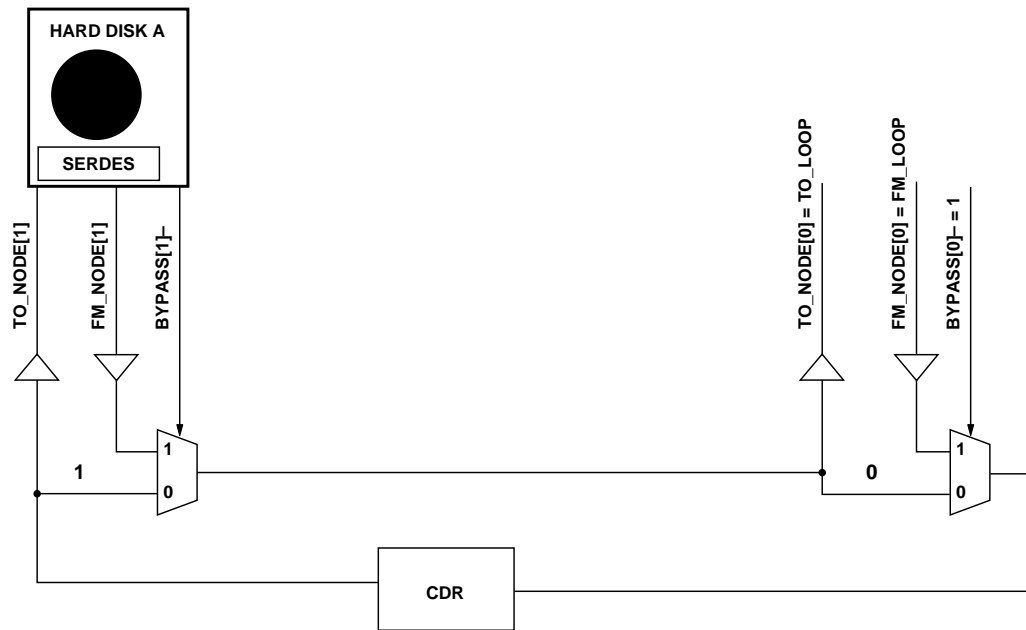
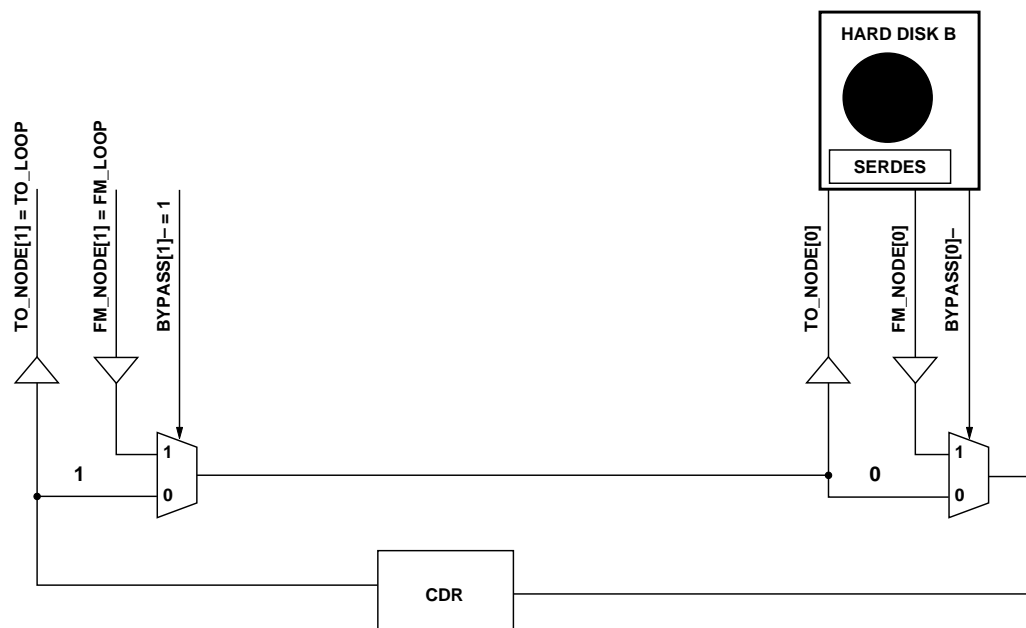

Figure 4: Connection Diagram. Case of CDR Before Entering the Hard Disk.
Figure 5: Connection Diagram. Case of CDR After Exiting the Hard Disk.
A Port Bypass Circuit is a 2:1 Multiplexer array with two modes of operation: DISK IN LOOP and DISK BYPASSED. In DISK IN LOOP mode, the loop goes into and out of the disk drive. Data go from the HDMP-0421's TO_NODE[n] \pm differential output pins to the Disk Drive Transceiver IC (for example, an HDMP-1536A) Rx \pm differential input pins. Data from the Disk Drive Transceiver IC Tx \pm differential output pins go to the HDMP-0421's FM_NODE[n] \pm differential input pins. Figures 4 and 5 show connection diagrams for disk drive array applications. In DISK BYPASSED mode, the disk drive is either absent or non-functional and the loop bypasses the hard disk. DISK IN LOOP mode is
(Figure 4). To achieve a CDR function after slot A, the BYPASS[1]- pin must be HIGH and hard disk slot A must be connected to PBC cell 0 (Figure 5). Table 2 shows both possible connections. In both cases, a Signal Detect (SD) pin
Table 2. Pin Connection Diagram to Achieve Desired CDR Location (see Figures 4 and 5)